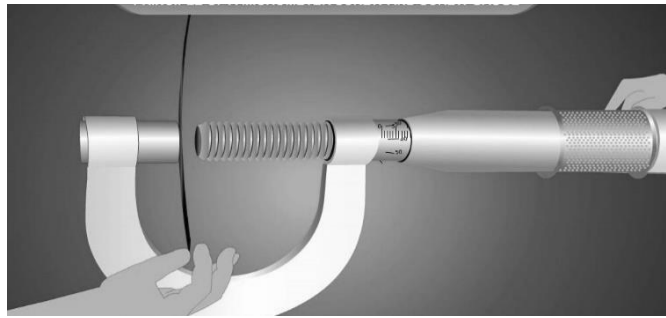

Figure 1.2: Placing the wire for measurement
- Put the wire in between the anvil/ stud and the spindle. Move the screw forward by rotating the ratchet till the wire is gently gripped between the spindle and the anvil (as shown in figure 1.2 and 1.3)